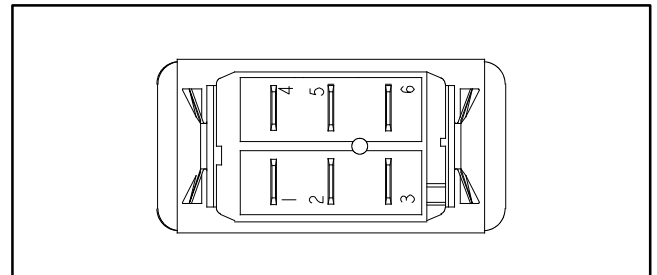

Figure 32
4. With the use of a multimeter (ohms setting), the switch functions may be tested to determine whether continuity exists between the various terminals for each light switch position. The light switch terminals are marked as shown in Figure 32. The circuitry of this switch is shown in the chart below. Verify continuity between switch terminals.